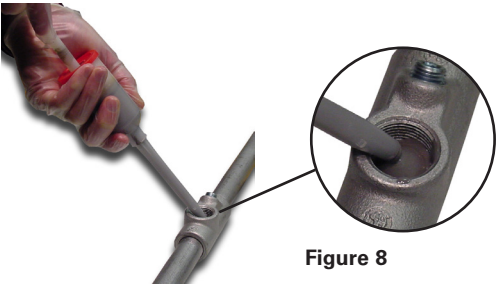

Figure 8
- Use the mixing rod to push the plunger. Inject the proper amount of sealing compound material into the fitting through the EYS threaded opening. See Figure 8. See Table 1 at the beginning of installation instructions for proper amount of material. Cartridge is marked at 1/2 used point.